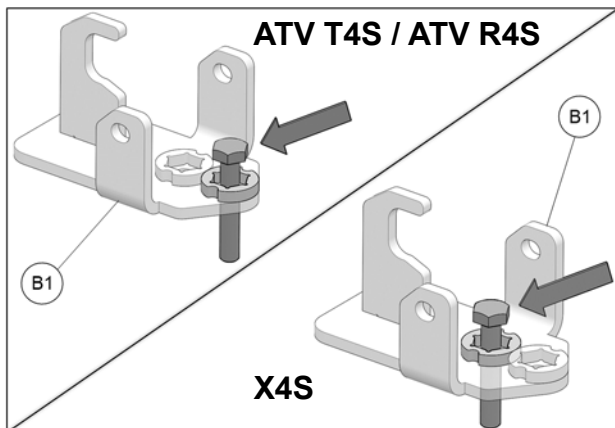

Fig. 4
4. Insert the bolt in the rear anchor bracket (**B1**), as shown in Fig. 4